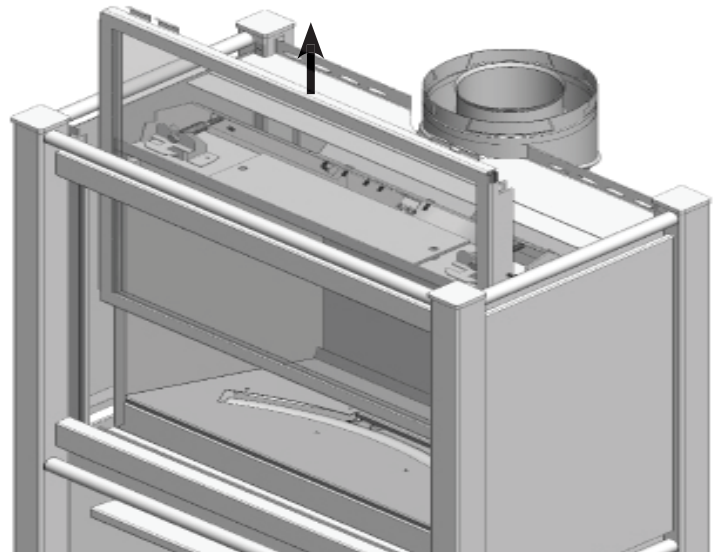

Fig.2
4. Carefully slide the door glass assembly up and out of the unit. **(Fig 2)**